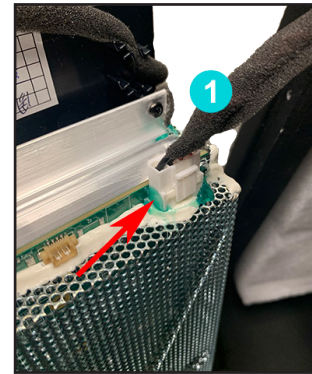

Figure 5. Green Adhesive & Cable Removal
1.3 Remove the green adhesive with IPA (Isopropyl alcohol) from the ① cable's connections as red arrow indicated in Figure 5.
1.4 Disconnect the cable ① that are attaching the Woofer. Figure 5.